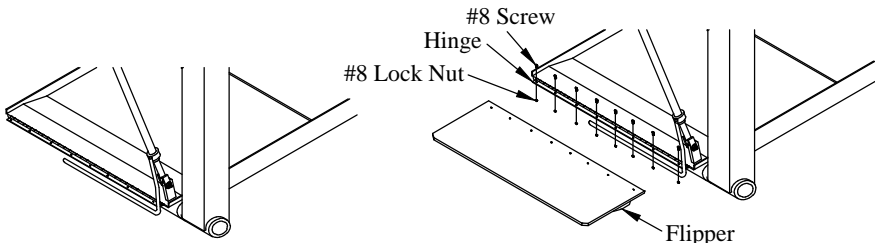

Figure 26: Flipper arm assembled.
11. **Reinstall** the self-closing rod and 3/8" x 1-1/4" bolt weldment (Figure 26).